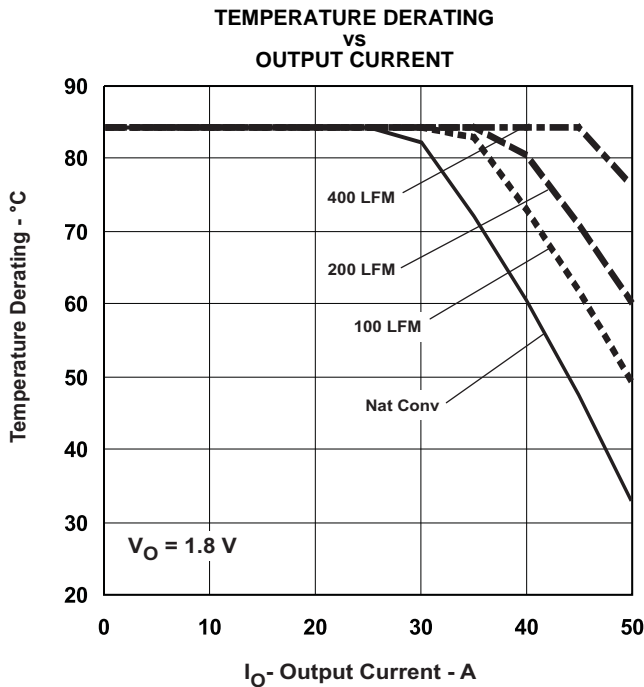
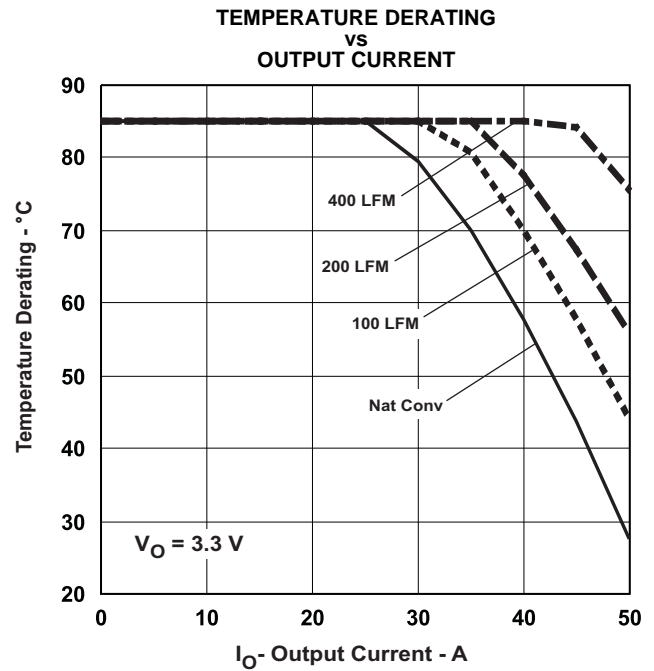

Figure 3.
Figure 4.
- (2) The temperature derating curves represent the conditions at which internal components are at or below the manufacturer's maximum operating temperatures. Derating limits apply to modules soldered directly to a 4-in. x 4-in., double-sided, 4-layer PCB with 1-oz. copper. See the mechanical specification for more information. Applies to Figure 3 and Figure 4.